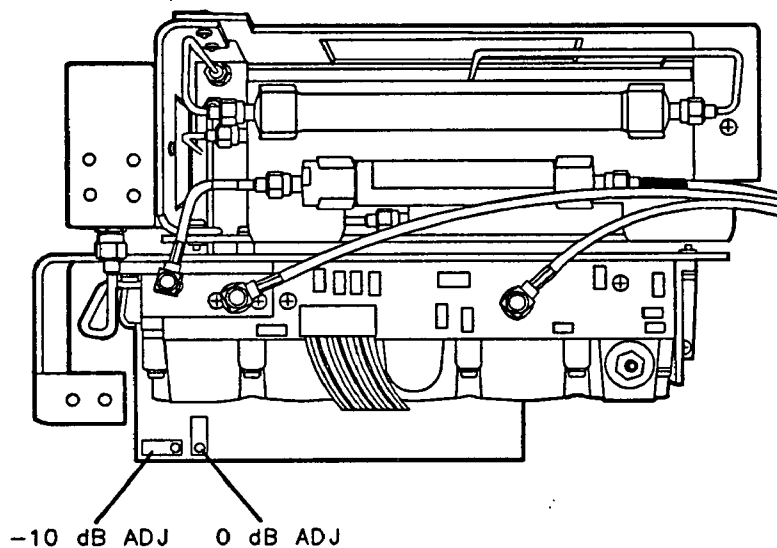

Figure 2-4. BITG Power Level Adjustment Locations
8. On the spectrum analyzer, press **SRC PWR ON OFF** (ON), 0, (dBm), (SGL SWP).
9. Adjust -10 dB ADJ (A3A15R13) for a 0 dBm ± 0.05 dB reading on the measuring receiver. Refer to Figure 2-4 for adjustment location.
11. With the SRC PWR level set to -10 dBm , adjust -10 dB ADJ (A3A15R13) for a $-10 \text{ dBm} \pm 0.1 \text{ dB}$ reading on the measuring receiver. Refer to Figure 2-4 for adjustment location.
12. Set the SRC PWR level to 0 dBm . Adjust 0 dB ADJ (A3A15R18) for a $0 \text{ dBm} \pm 0.2 \text{ dB}$ reading on the measuring receiver. Refer to Figure 2-4 for adjustment location.